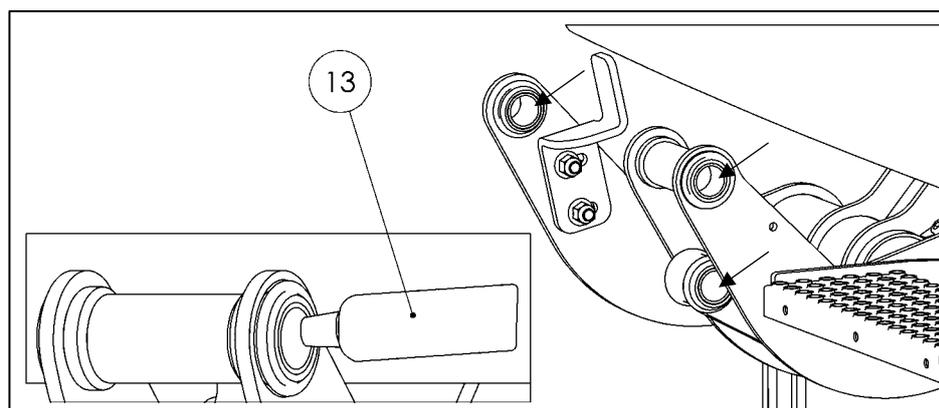

Figure 53
- Thoroughly grease the bearing bushes with the special assembly grease (accessories kit parts list – Item No. 13) (see Fig. 53).